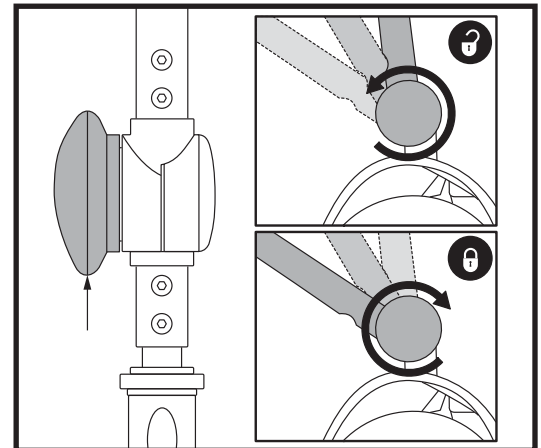

Figure 11. Tiller Adjustment Knob
TILLER ANGLE ADJUSTMENT (See figure 11)
1. With the seat and battery pack removed (see Disassembly Procedures on previous page), lower the tiller and tighten the tiller adjustment knob. **See figure 11.**
3. Raise the tiller and fully tighten the tiller adjustment knob. **See figure 11.**